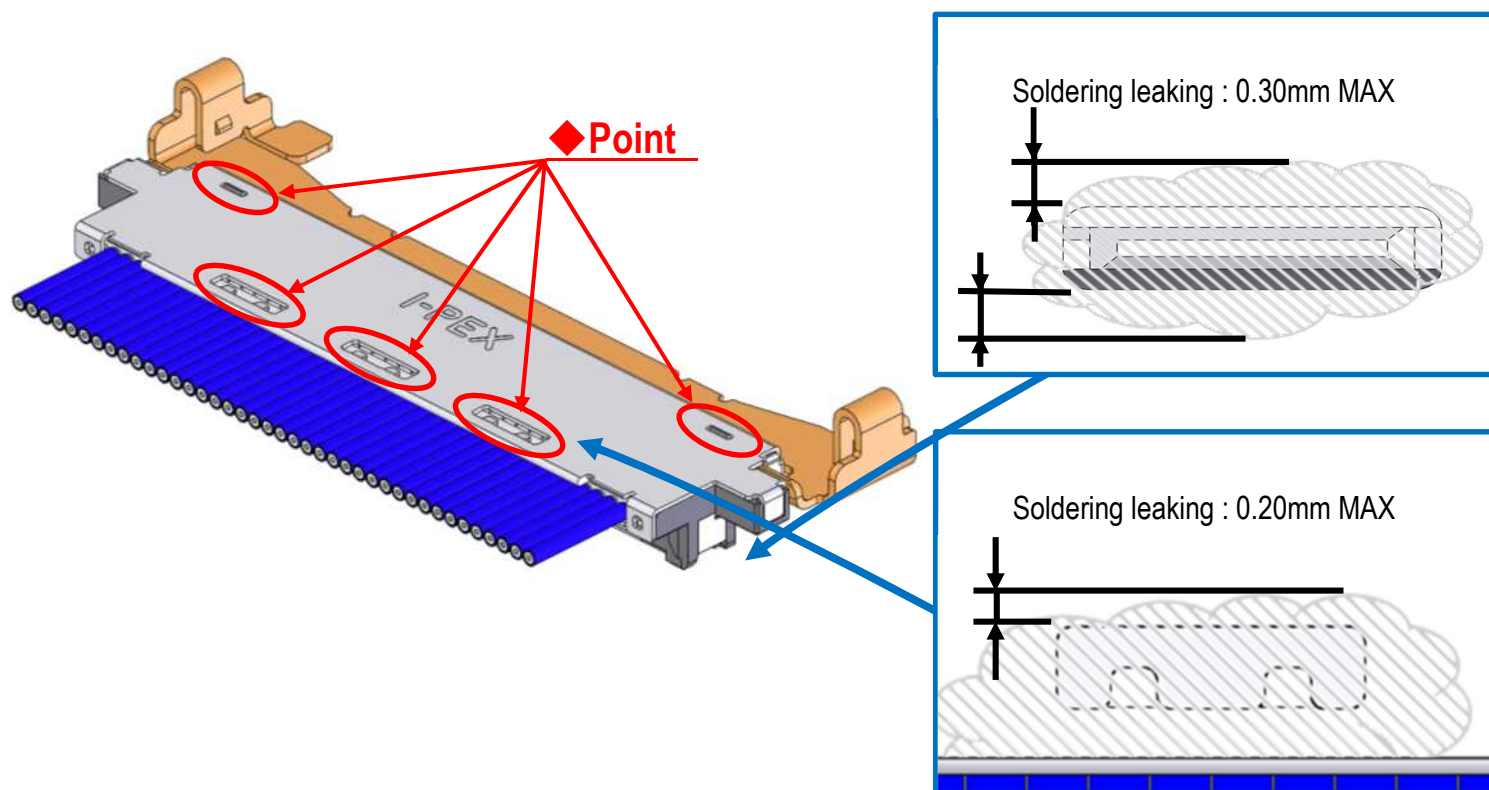

Fig.7 Soldering of SHELL-A and GND BAR
- ③ Soldering SHELL-A, B and GND BAR with the soldering iron at designated points is recommended. (Fig.7,8◆point)